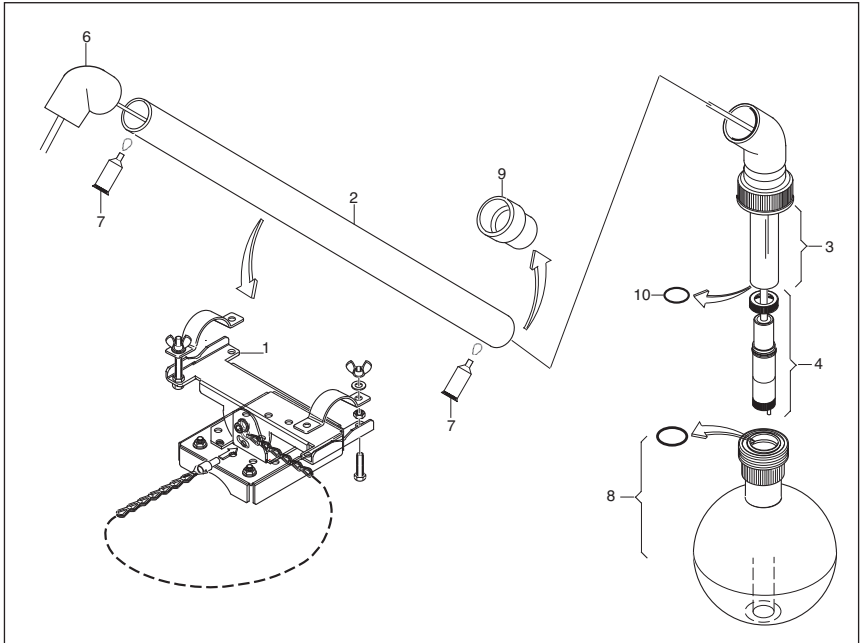

Figure 4
The floating ball fitting with sensor for Dissolved Oxygen will be delivered in parts and has to be assembled before it can be used. Check if all standard parts are delivered, see Figure 4. Please note that items (4) and (2 + 6) are optional and, if not specified with the order, these parts will not be delivered. The position ring (9) will only be received when PB30-00. is ordered. This part is only needed when 1 1/2" pipe will be used in stead of 50 mm.
#### 5.3.3 Assembling the floating ball fitting (ref to Figure 4)